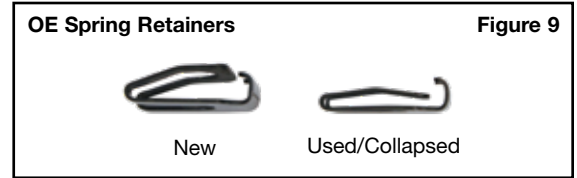

Figure 9
- Remove and discard older/collapsed OE retainers (**Figure 9**). Be sure to hold the shift solenoid to prevent it from falling.